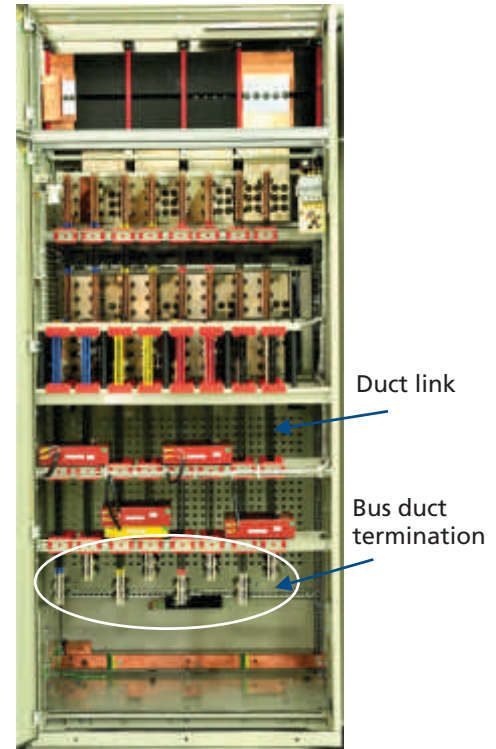

Figure 28 - Bottom Busduct termination
- Connect the flats of the busduct with the links at the end of the busduct riser using the flexibles Figure28.